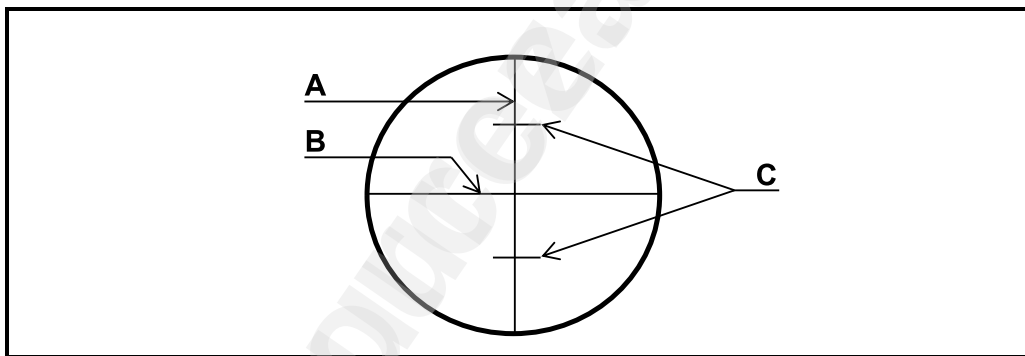

FIGURE 2.8
- 2.8 Identify the cross hairs **A** to **C** in the telescope of the dumpy level in FIGURE 2.8.